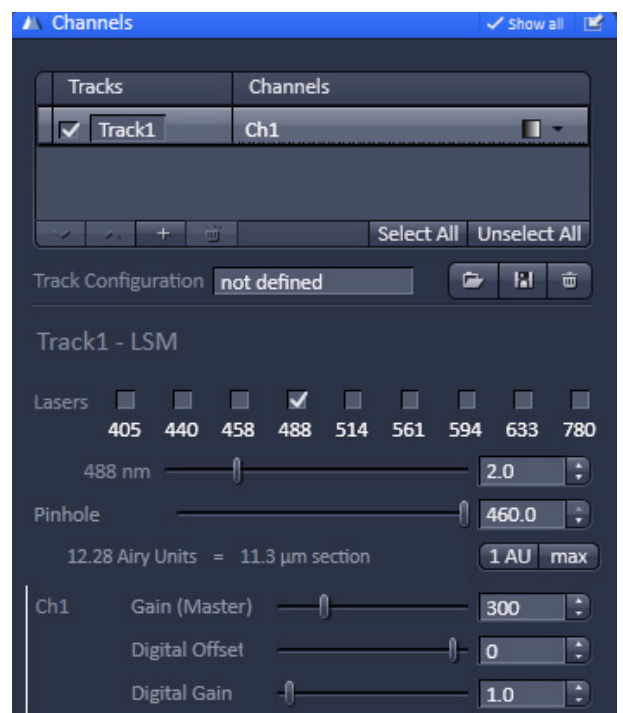

Fig. 307 Channel settings for finding glass reflection
- Set up scan control in the LSM **Channels** tool (Fig. 307). Open Pinhole to maximum. Set detector gain between 200 and 300, and laser power to 2 %.